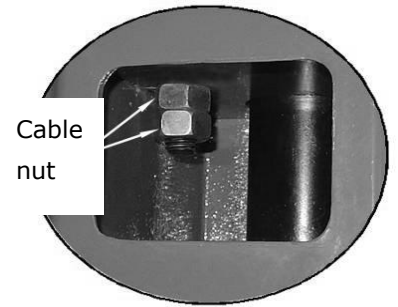

Fig. 35
1. Adjustment of sync cable (See Fig.35)